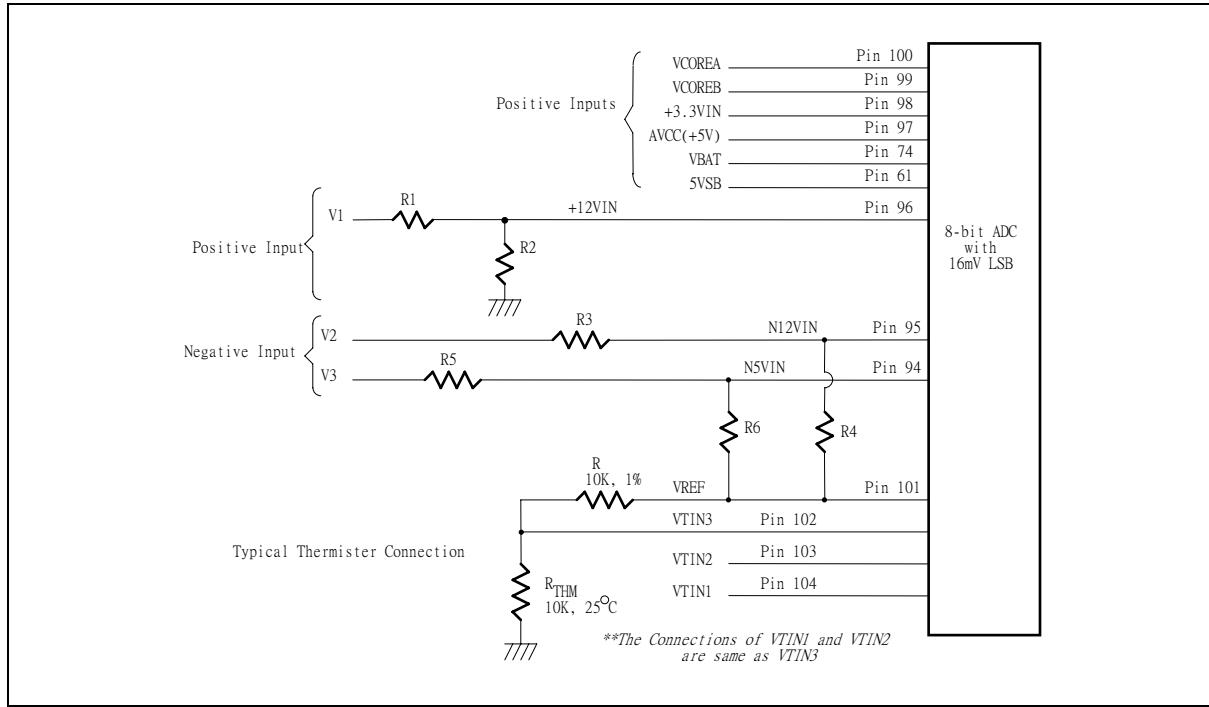

Figure. 8.2
The maximum input voltage of the analog pin is 4.096V because the 8-bit ADC has a 16mV LSB. Really, the application of the PC monitoring would most often be connected to power suppliers. The CPU V-core voltage, +3.3V, battery and 5VSB voltage can directly connected to these analog inputs. The +12V, -12V and -5V voltage inputs should be reduced a factor with external resistors so as to obtain the input range. As Figure 8.2 shows.
The negative voltage should be connected two series resistors and a positive voltage VREF (is equal to 3.6V). In the Figure 8.2, the voltage V2 and V3 are two negative voltage which they are -12V and -5V respectively. The voltage V2 is connected to two serial resistors then is connected to another terminal VREF which is positive voltage. So as that the voltage node N12VIN can be obtain a posedge voltage if the scales of the two serial resistors are carefully selected. It is recommended from Winbond that the scale of two serial resistors are  $R3=232K\Omega$  and  $R4=56K\Omega$ . The input voltage of node N12VIN can be calculated by following equation.
The W83627HF can connect three thermistors to measure three different envirment temperature. The specification of thermistor should be considered to (1)  $\beta$  value is 3435K, (2) resistor value is 10K ohms at 25°C. In the Figure 8.2, the themistor is connected by a serial resistor with 10K Ohms, then connect to VREF (Pin 101) .